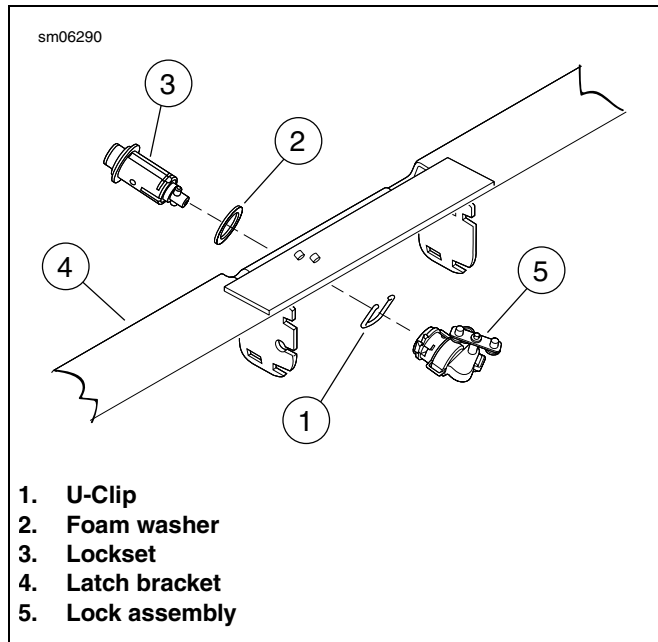

Figure 3. Lockset Components
1. See Figure 3. From inside trunk, pull U-clip (1) from the lock assembly (5). Use a small needle nose pliers for best results.
2. Remove lockset (3) from bore in latch bracket (4).
3. Remove foam washer (2) from housing and save for reuse.
- See Figure 3. Install lock assembly using original foam washer (2) and secure with supplied U-clip (1). Verify latch operation.